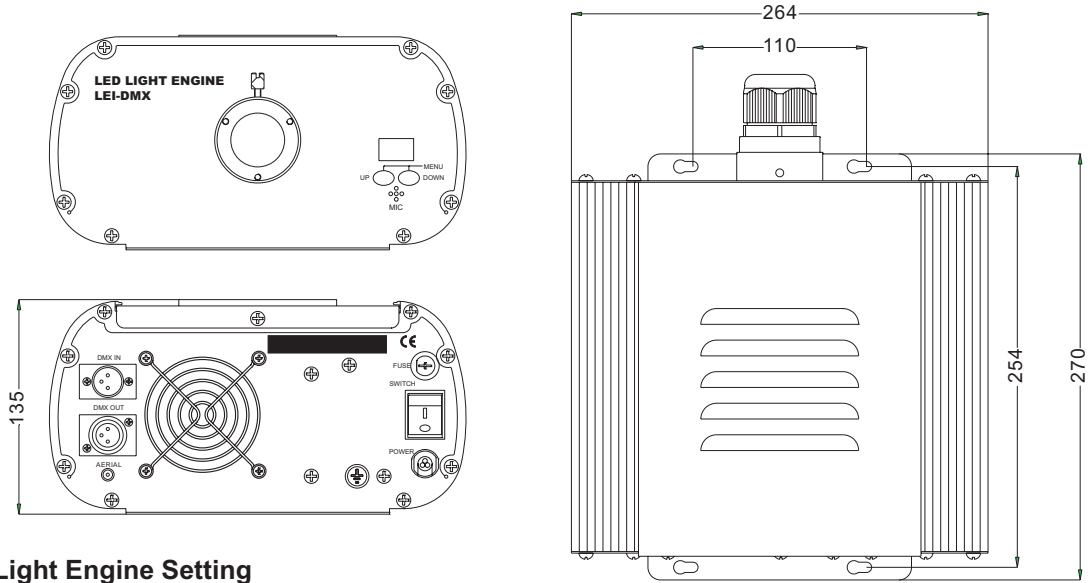

Fig.2
2. Installation dimension of light engine(see Fig.2):